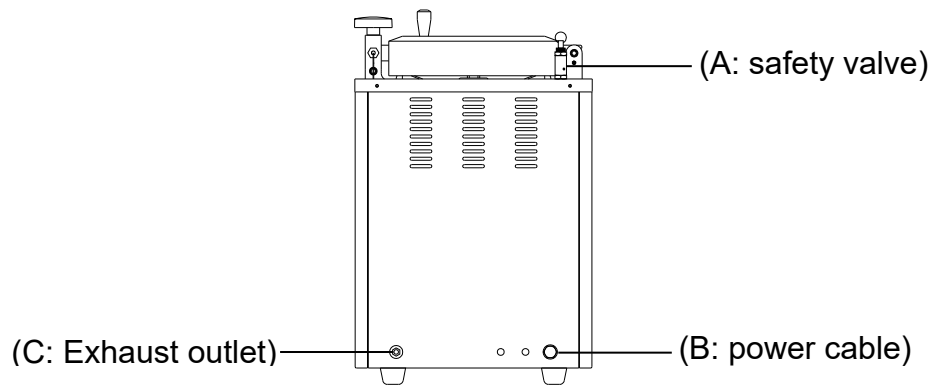

Figure 3
- B. Heating water is drained from the chamber through this outlet. Connect the exhaust hose to the “Exhaust (C)” as shown in Figure 3 to drain heating water according to the local national law.